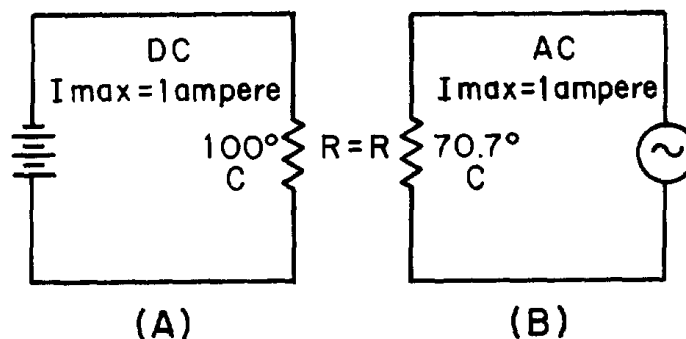

Figure 1-15.—Heating effect of ac and dc.
Figure 1-15 compares the heating effect of 1 ampere of dc to the heating effect of 1 ampere of ac.
Examine views A and B of figure 1-15 and notice that the heat (70.7° C) produced by 1 ampere of alternating current (that is, an ac with a maximum value of 1 ampere) is only 70.7 percent of the heat (100° C) produced by 1 ampere of direct current. Mathematically,
Stated another way, the effective or rms value (I_{eff}) of a sine wave of current is 0.707 times the maximum value of current (I_{max}). Thus, $I_{\text{eff}} = 0.707 \times I_{\text{max}}$. When I_{eff} is known, you can find I_{max} by using the formula $I_{\text{max}} = 1.414 \times I_{\text{eff}}$. You might wonder where the constant 1.414 comes from. To find out, examine figure 1-15 again and read the following explanation. Assume that the dc in figure 1-15(A) is maintained at 1 ampere and the resistor temperature at 100° C. Also assume that the ac in figure 1-15(B) is increased until the temperature of the resistor is 100° C. At this point it is found that a maximum ac value of 1.414 amperes is required in order to have the same heating effect as direct current. Therefore, in the ac circuit the maximum current required is 1.414 times the effective current. It is important for you to remember the above relationship and that the effective value (I_{eff}) of any sine wave of current is always 0.707 times the maximum value (I_{max}).